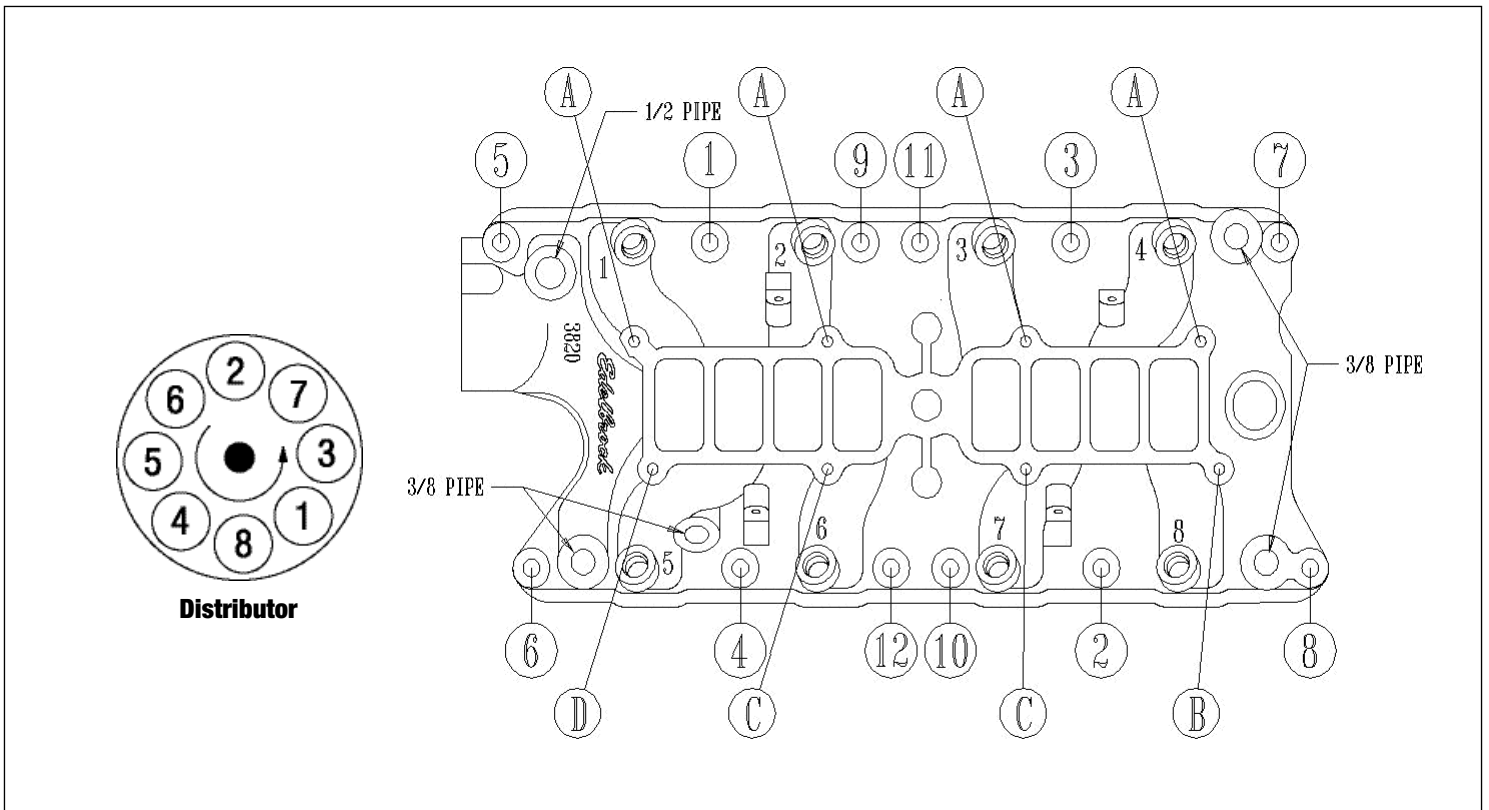

Figure 1 - Intake Manifold Tightening Sequence, Manifold Top-To-Bottom Fastener Locations, and Firing Order
4. For ease of installation, we recommend using Edelbrock manifold bolt and washer kit #8524. It may be necessary to re-use the original stud bolt to hold heater tube bracket in hole #3 **(See Figure 1)**.
5. Install lower intake manifold and retaining bolts. Tighten bolts to 15-18 ft./lbs. in sequence **(See Figure 1)**.
8. Install upper manifold and gasket (dry) using hardware supplied (**See Figure 1 and Fastener Location Chart Below**). Upper manifold must be positioned so that the throttle body is on the passenger side of vehicle, not driver's side. Do not overtighten manifold base-to-manifold upper fasteners. Use a short box or open end wrench only.